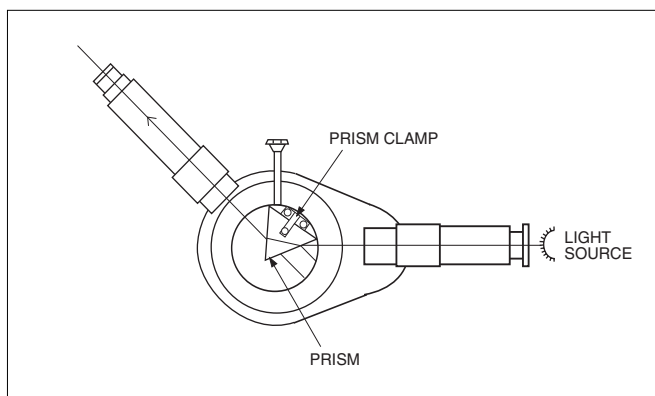

Figure 10 Mounting the Prism
2. Use the two thumbscrews to attach the prism clamp to the spectrometer table and clamp the prism in place as shown in Figure 10.